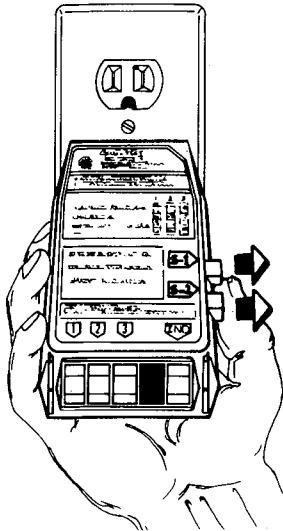

Figure 28
- Step 1. Be sure the black (S-1) and red (S-2) buttons are OUT and that tests 1, 2, 3 & 4 have been passed before proceeding (Fig. 28).